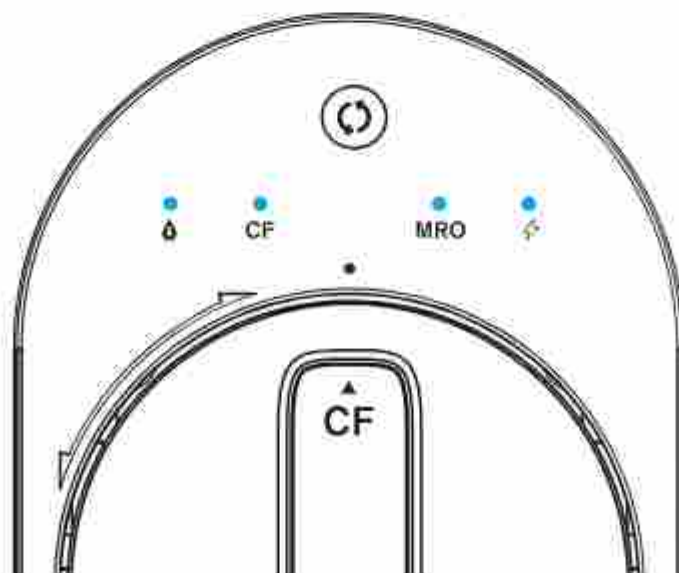

Figure 10
**NOTE:** The system will beep. The filter life indicators will flash blue, purple and red in turn and then stay on blue for 3 seconds (Figure 10).